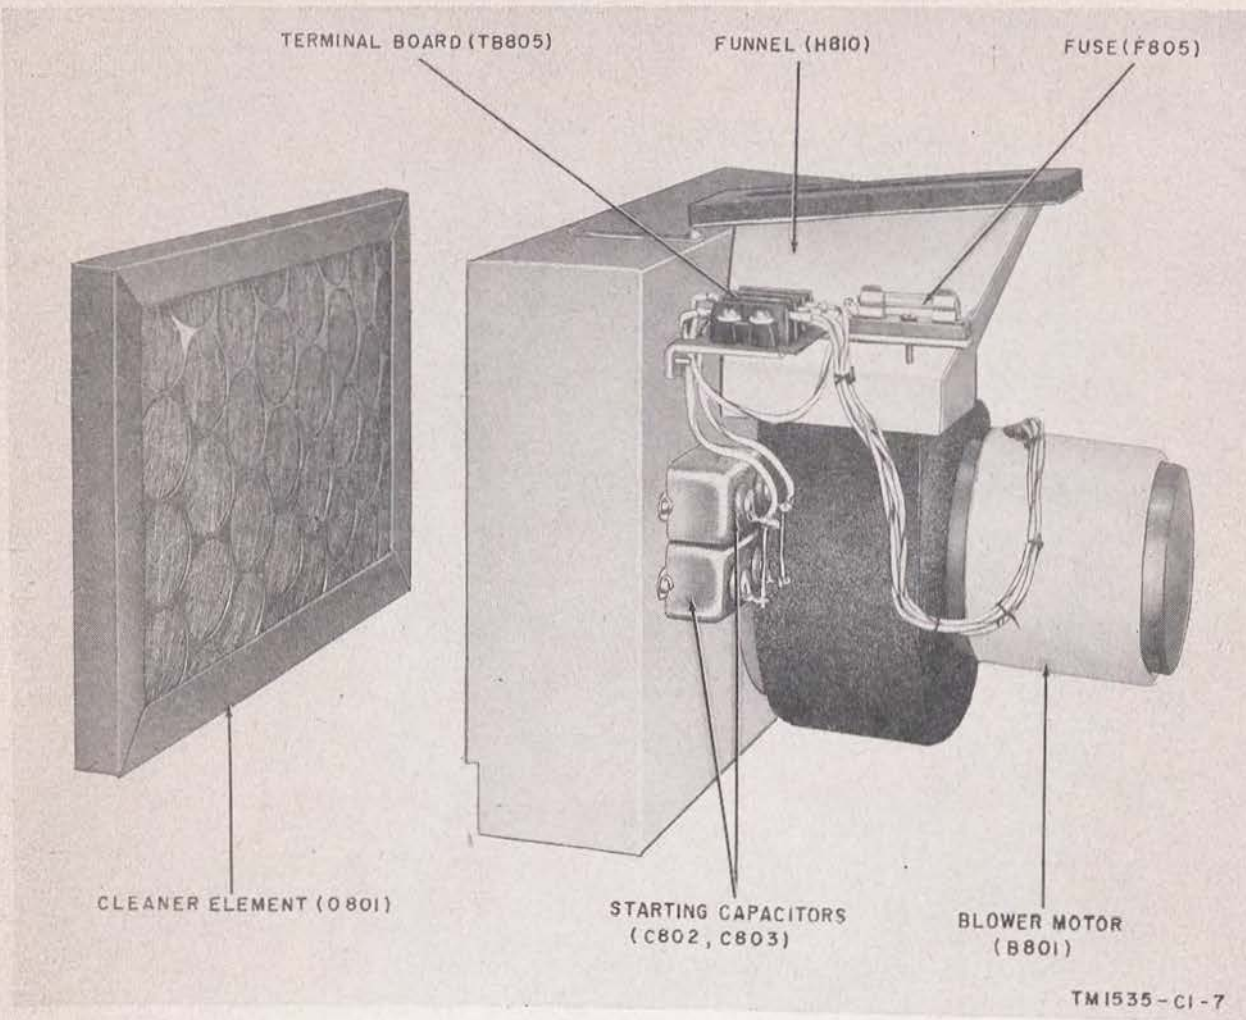

Figure 204.1. Blower assembly supplied on receiver-transmitters bearing Order No. 28468-Phila-55.
- (1) Blower motor BS01 operates from the 115-volt, 400-cycle, motor-generator output.
- (2) Terminal board TB805, fuse F805, and starting capacitors C802 and C803 have been added for the connections and operation of the blower motor (fig. 204.1).
- (3) The convenience panel has been changed so that a larger air filter can be installed.
- (4) Spare brushes for the motor generator, the antenna drive motor, and the deflection coil are supplied.
- (5) Fuse F301 in the modulator power supply has been changed from 2 amperes to a 1-ampere, slow blow type.
Page 247. Add figure 204.1 after figure 204.